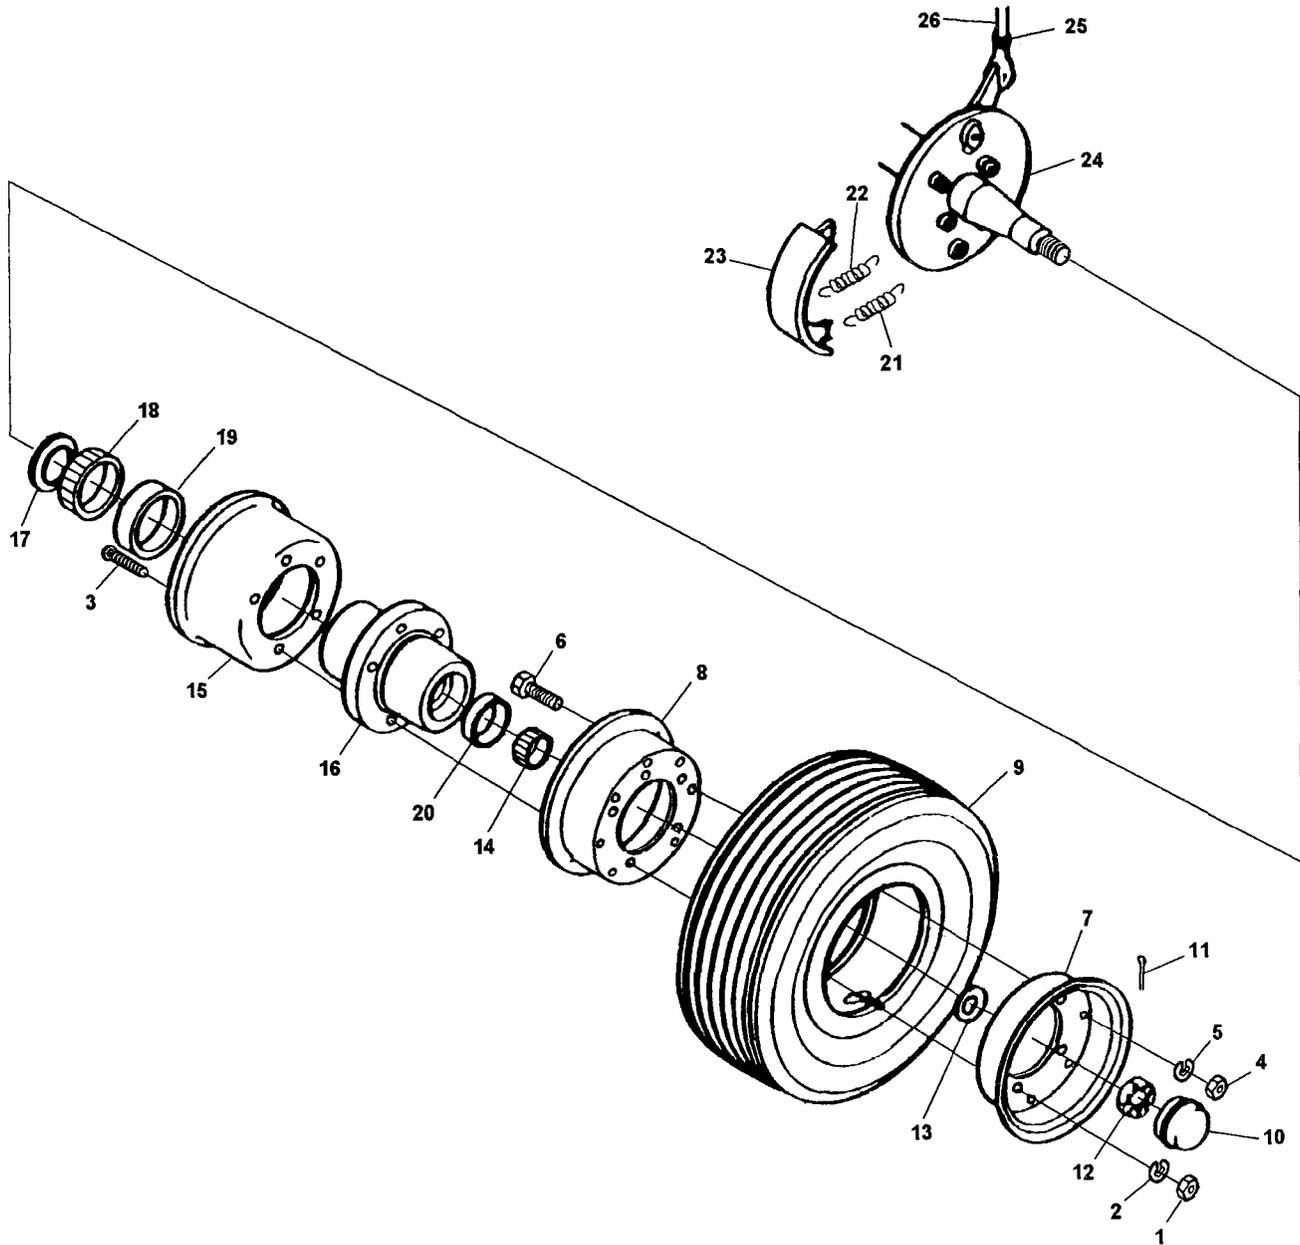

Figure 5-10. Wheel Mounting Kit, Wheels and Brakes, Exploded View
- (d) Remove lug nuts (1, Figure 5-10) and lockwashers (2) to remove wheel and tire.
- (e) Remove nuts (4), lockwashers (5) and screws (6) to separate wheel halves (7 and 8) and pneumatic tire (9).
- (f) Inspect lug nut studs (3) for crossed, stripped, or peened threads or other damage.
- (2) Repair. Refer to Appendix A for listing of applicable manual for pneumatic tire repair.
- (3) Installation.
- (b) If damaged, install new lug nut studs (3, Figure 5-10).
- (c) Install pneumatic tire (9), wheel halves (8 and 7), screws (6), lockwashers (5), and nuts (4).
- (d) Position tire and wheel to install lockwashers (2) and lug nuts (1).
(1) Removal.
- (a) Remove wheel and tire as outlined in paragraph 5-19a (1) above.
- (b) Remove grease cap (10, Figure 5-10), cotter pin (11) and castellated nut (12) and key washer (13) to remove outer bearing (14).
- (c) Remove drum (15) and hub (16) as an assembly with grease seal (17), inner bearing (18) and races (19 and 20). Remove grease seal and inner bearing.
- (a) Remove wheel and tire with drum assembly as outlined in paragraph 5-19b. (1) above.
- (b) Remove return springs (21, Figure 5-10).
- (c) Remove hold-down springs (22) and brake shoes (23) from axle and plate assembly (24).
(2) Cleaning and Inspection.
(3) Repair. Replace any parts found defective.
(4) Installation.
- (a) Install brake shoes (23, Figure 5-10) and springs (22) onto axle plate assembly (24).
- (b) Install return springs (21).
- (c) Install tire and wheel with drum assembly as outlined in paragraph 5-19b. (1) above.
- (d) Install drum assembly with wheel and tire attached as outlined in paragraph 5-19b. (4) above.
- (b) Loosen lock nuts (25, Figure 5-10) on both wheels and rotate rod (26) until both brake shoes lightly rub drums. Tighten lock nuts (25).